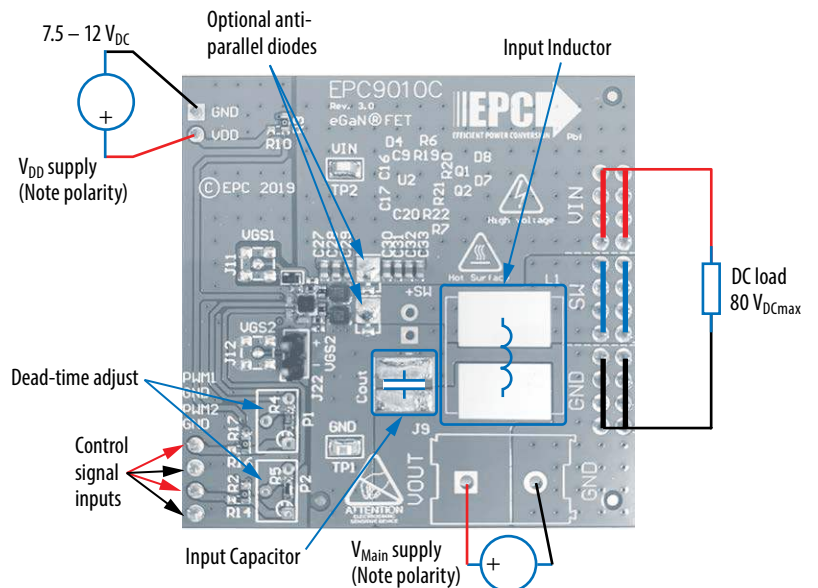

Figure 3: Boost configuration
1. The inductor (L_1) and input capacitors (labeled as C_{out}) can either be soldered onto the board, as shown in figure 3, or provided off board. Anti-parallel diodes can also be installed using the additional pads on the right side of the EPC2016C FETs.